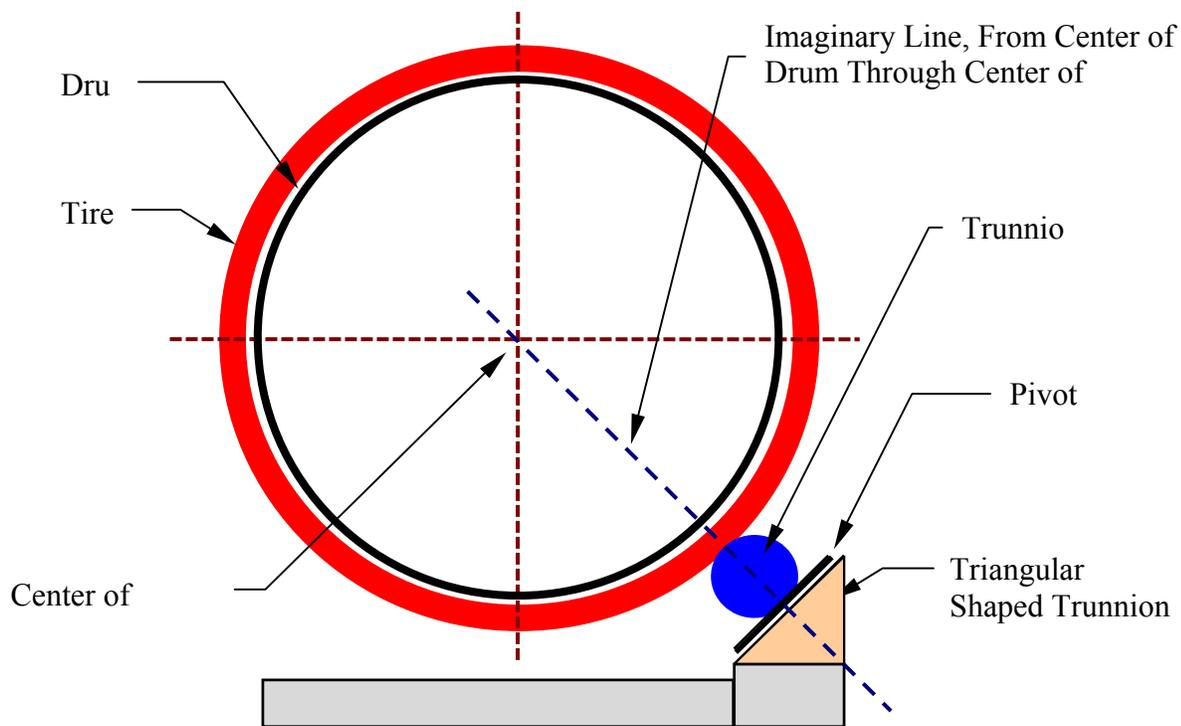
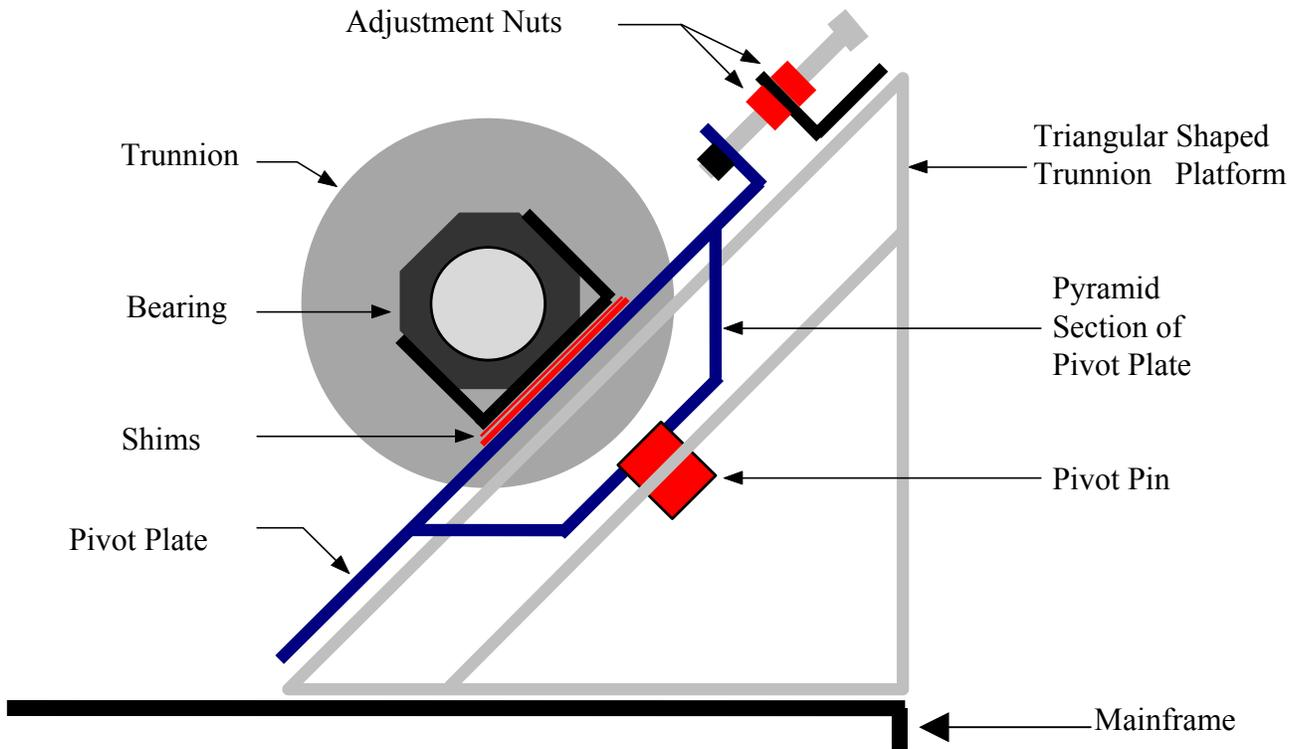

Figure 2 .
Figure 6. Side view of trunnion assembly.
The current trunnion design used by Astec is a refined version of a design patented by Barber-Greene. It offers distinctive advantages over other trunnion designs. The design is distinguished by the 41° (approximate) triangular shaped trunnion support section. For an example see **Figure 2**. This places the pivoting adjustment plate perpendicular to a line that would run from the center of the drum, through the tire/trunnion contact point and on through the center of the trunnion. The mounting angle of this plate ensures that the face contact angle will not change as the trunnions are skewed. There is also a center pivot pin that ensures the trunnion to drum centerline dimension can never be lost (see **Figure 6**). The following discussion refers to the recommended steps for adjusting trunnions on drums equipped with the current Astec style trunnions (unless otherwise noted). Other styles of trunnions and some drum designs may require that a different procedure be used. Most of the Astec Double Barrel Mixers incorporate this design. Exceptions are some of the smaller models.
The shim packs go under the bearings, on top of the pivoting plate. **Do not shim under the pivoting plate!** This will negate the benefit of the trunnion base design. See **Figure 6** for shim location.
- The triangular shaped trunnion platform section is separate and only bolted to the mainframe. See **Figure 6**.
We know that the trunnions need to be skewed in the up-hill direction. Thus, when setting zero, you should **skew the trunnion beyond zero in the downhill direction and then come back up-hill to zero.** This will take the backlash out of the threads of the adjustment nuts. This way when you do start to make your actual adjustments turning one flat of a nut will make the same change on all trunnions. To skew the trunnion you have to loosen the adjustment nut(s) on one side of the pivoting plate adjustment bracket before you can tighten the other side. **Turn the nuts not the bolt!** Use the nuts to move the pivot plate. You may need to loosen some nuts more than the nut you tighten. This is important to do now because of the **center pivot pin.** Please refer to **Figure 6** for a reference of part locations.